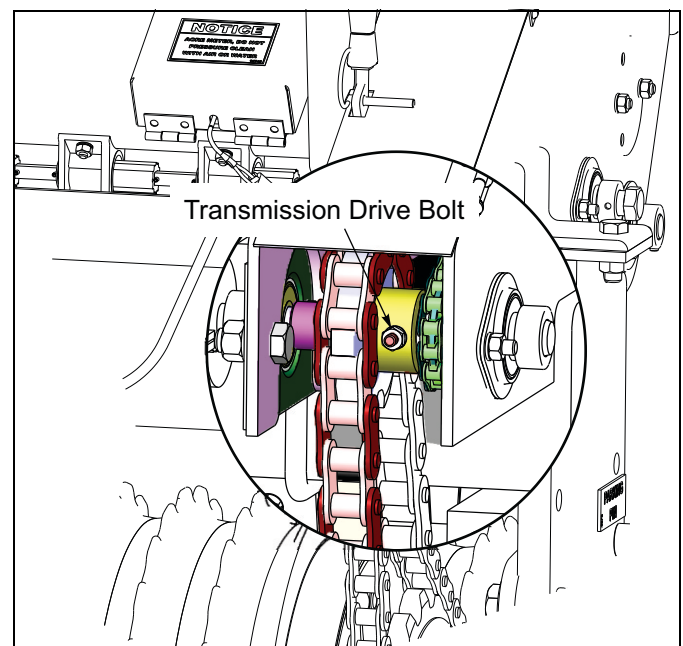

Figure 3-6: Transmission Drive Bolt
The bolt can also be removed if it is desired to use the seeder as a pulverizer only. **See Figure 3-6.**
1. Remove the drive bolt from the 12 tooth #A550 chain driven sprocket. **See Figure 3-6.**